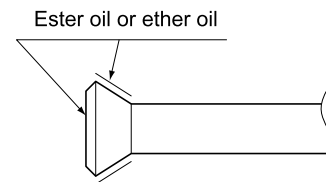

Fig. 17
- When connecting the flare nut, coat the flare section (both inside and outside) with ester oil or ether oil, rotate three or four times first, then screw in. (Refer to Fig. 17)